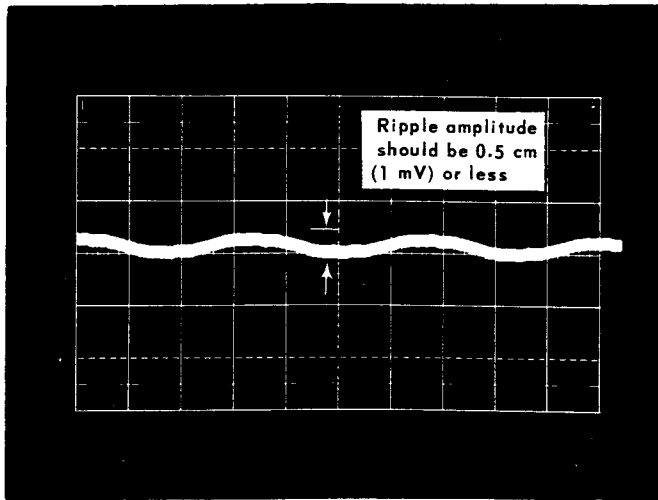

Fig. 9. Typical test oscilloscope display of ripple on +12.5-volt or -12.5-volt supplies.
- b. Check—Test oscilloscope display of power supply ripple with an amplitude of 0.5 cm (1 mV) or less (see Fig. 9).
d. Check—Test oscilloscope display of power supply ripple with an amplitude of 0.5 cm (1 mV) or less (see Fig. 9).